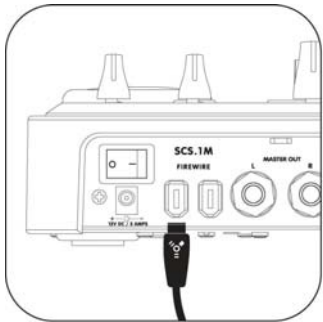

Figure 2.2
**Step 2:** Attach the included FireWire cable to the SCS.1m. The FireWire ports are clearly labeled on the back panel of the SCS.1m. (Figure 2.2)